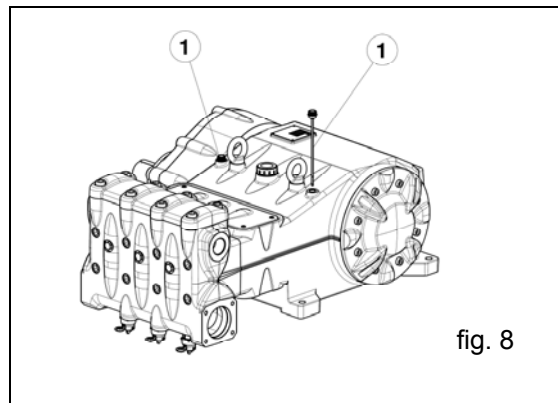

fig. 8
5. The pump's oil level must be verified using the apposite dipsticks (position 1 fig.8).